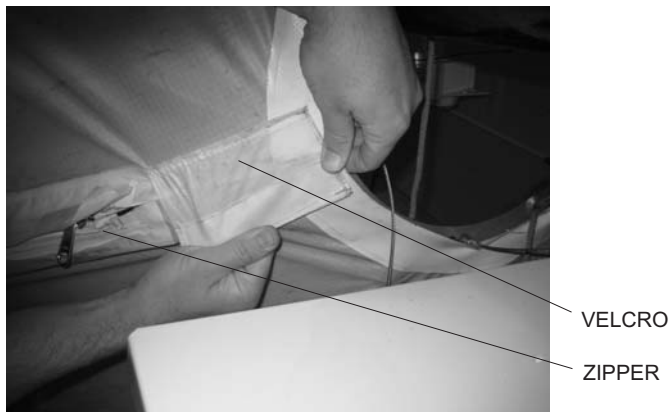

Figure 15. Attaching Zipper Velcro
18. Attach velcro on the end of the balloon zipper. Make sure to stretch the balloon material and that velcro is attached tightly. See Figure 15.